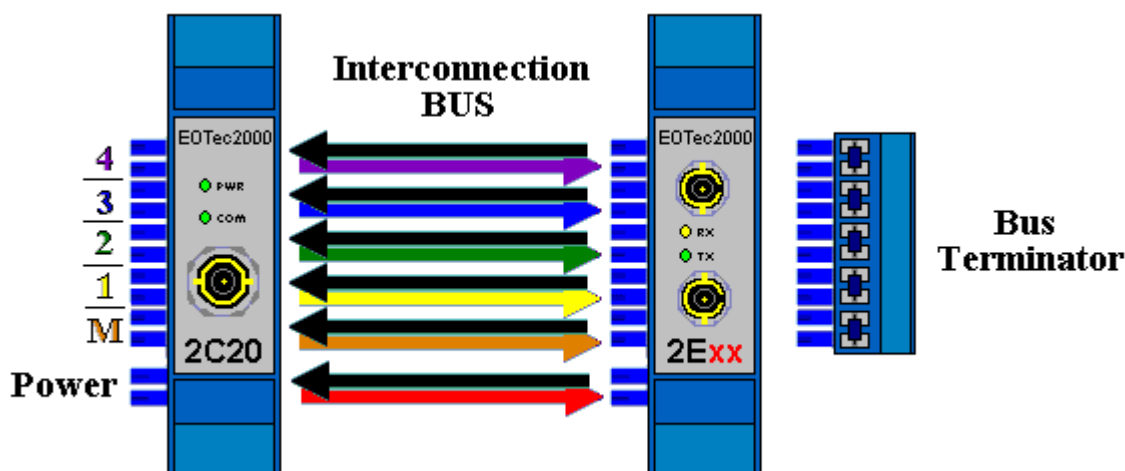

Figure 3-2
Each communications module on the Stack's interconnection BUS is required to have a unique address. Each stack must have one 'Master' and all other modules require separate addresses (1 through 4). As shown on the left of figure 3-2, each address has a bi-directional communication path across the backplane in each stack.
To insure high quality signals across the ControlNet Stack's interconnection BUS, a terminator block will need to be added to the end of each stack. As shown in figure 3-2, the terminator has a connector that will plug into the right most module as you face your ControlNet stack. This eliminates any distortion that occurs on the data lines coming into the stack from both the electrical (BNC) and optical (ST) ports.